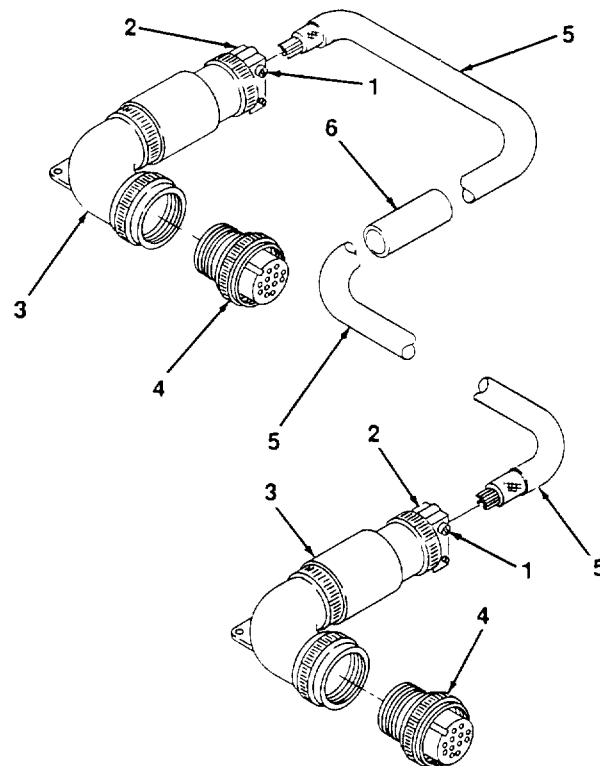

Figure 5-4. P4, P7 Low Fuel Cable Repair.
5-4 **Cable Repair.** (See figure 5-4) The only cable on the power unit that is repairable is the P4, P7 low fuel cable. Repair as follows:
- (1) Loosen screws (1, figure 5-4) to release cable clamps (2) on each backshell (3).
- (2) Unscrew one connector (4) and pull out until rear of connector is accessible.
- (3) Unsolder cable wires from connector pins (Refer to TB SIG 222 and TM 55-1500-323-25 for soldering procedures)
- (4) Repeat steps (2) and (3) for second connector (4)
- (5) Pull cable (5) out of backshells (3)
- (6) Remove sleeving (6) from cable (5)